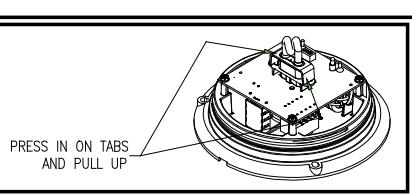

Figure 5
1. Most strobe failures, including intermittent or erratic operation as well as failure of operation can be traced to wiring or battery problems. Check all wiring, connections, fuse, switch, and battery voltage to insure that the correct voltage is reaching the strobe light. If the wiring or battery is not at fault, the flashlight may be defective. To replace the flashlight, remove the flashlight by squeezing on the tabs on the side of the tube holder and pulling off. See Figure 5. Plug in the new flashlight. Do not touch the glass of the new flashlight with your fingers. Use gloves or a soft cloth. Note: The connector is keyed to ensure proper orientation. Do not force. Reassemble the strobe. If this has not remedied the problem, return product to your local dealer for warranty replacement, or call ECCO Customer Service for assistance (800) 635-5900.